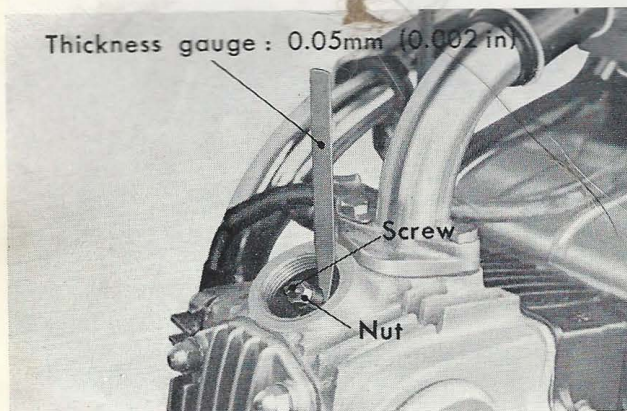

Figure 6-4. Adjusting tappet clearance
- b. Remove the tappet adjusting cap on the cylinder head and check the clearance between the adjusting screw and the valve. (Fig. 6-4)